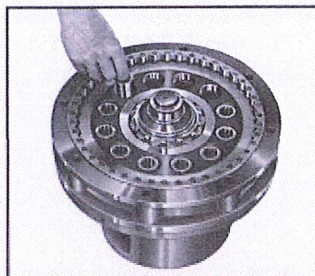

Fig. A-16
4. Insert the spacer (3-07) and then insert the eccentric with bearings by rapping with a wooden or hard rubber mallet (Fig. A-16).